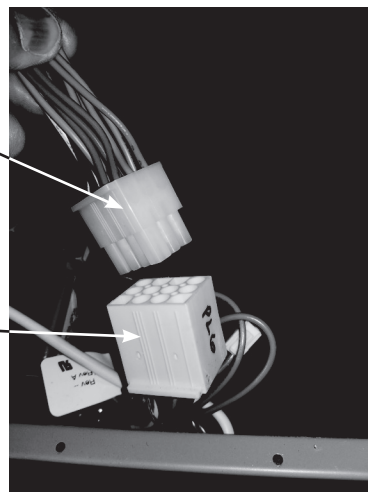

Fig. 5 — Connect EconoMiSer X Harness to Unit PL6 Economizer Harness
8. Remove and save the 12-pin jumper plug from the unit economizer harness located in the upper left corner of the unit. Insert the EconoMiSer X plug into the unit wiring harness. See Fig. 5.